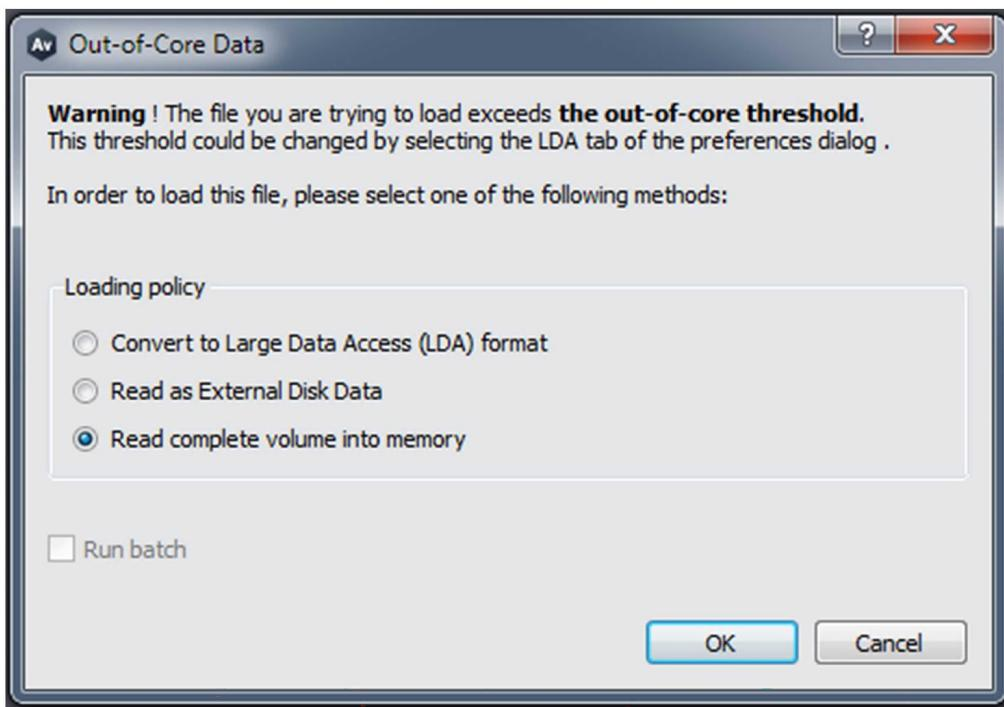

Fig. 7: 'Out-of-Core Data' window.
20.3 In 'Out-of-Core Data' choose 'Read complete volume into memory' and press 'Okay' (Fig. 7).